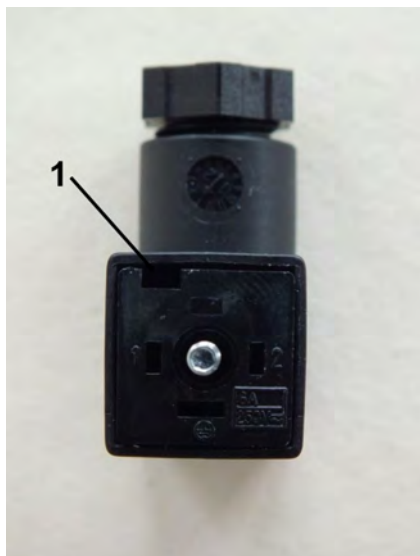

Fig. 22: Loosen inner section
3. ➤ Remove the inner section from the socket by inserting a flat-bladed screwdriver into the slot (Fig. 22/1) and carefully pry out the inner section.
7. ➤ Place the inner section (Fig. 22) back into the socket and push until it locks on